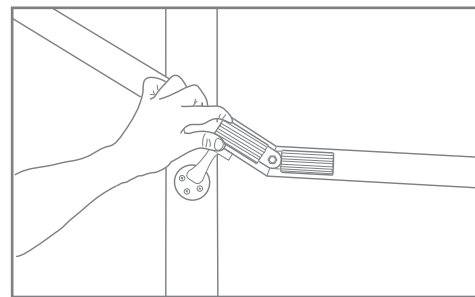

Fig. 10
- Assemble and position the adjustable joiner on the outside of the Hand Rail and tighten the bolt at the appropriate angle - Fig. 10.